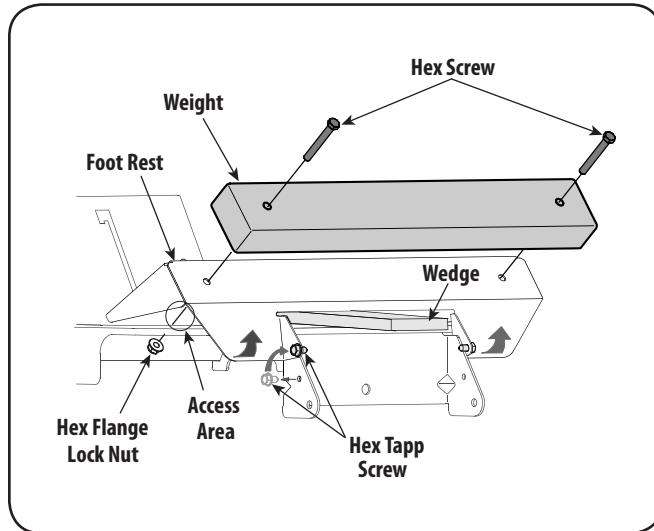

Figure 4-8
Because the openings between the foot rest and the tractor frame (Refer to Fig. 4-8) provide only limited access for installing the hex flange lock nuts, it is recommend that you enlarge these access areas by temporarily raising the front of the foot rest. To raise the front of the foot rest, proceed as follows:
- Grasp the front of the foot rest and lift it upward. Use one (or both) of the following methods to hold the front of the foot rest in the raised position while installing the weight. Refer to Figure 4-8.
- Insert two 710-3022 hex screws through the hole at each end of the weight. See Fig. 4-8.